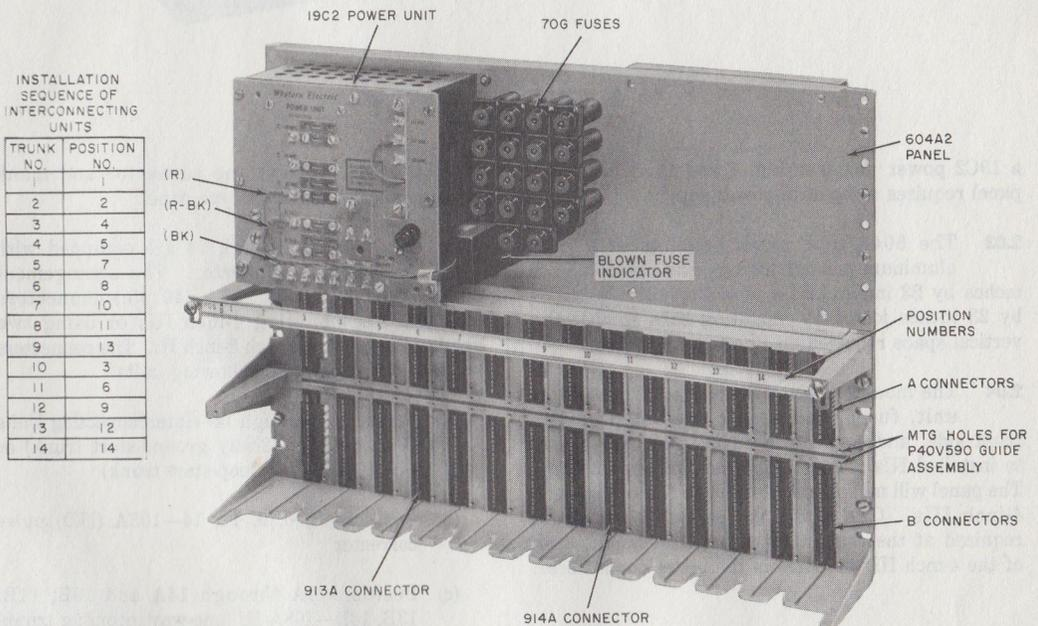

Fig. 1—604A2 Panel (Front View)
a 19C2 power unit (see Fig. 1 and 2). The 604A1 panel requires a separate power supply.
4.01 Refer to Fig. 1, 2, and 5 for connections to 19C2 power unit or external power supply.